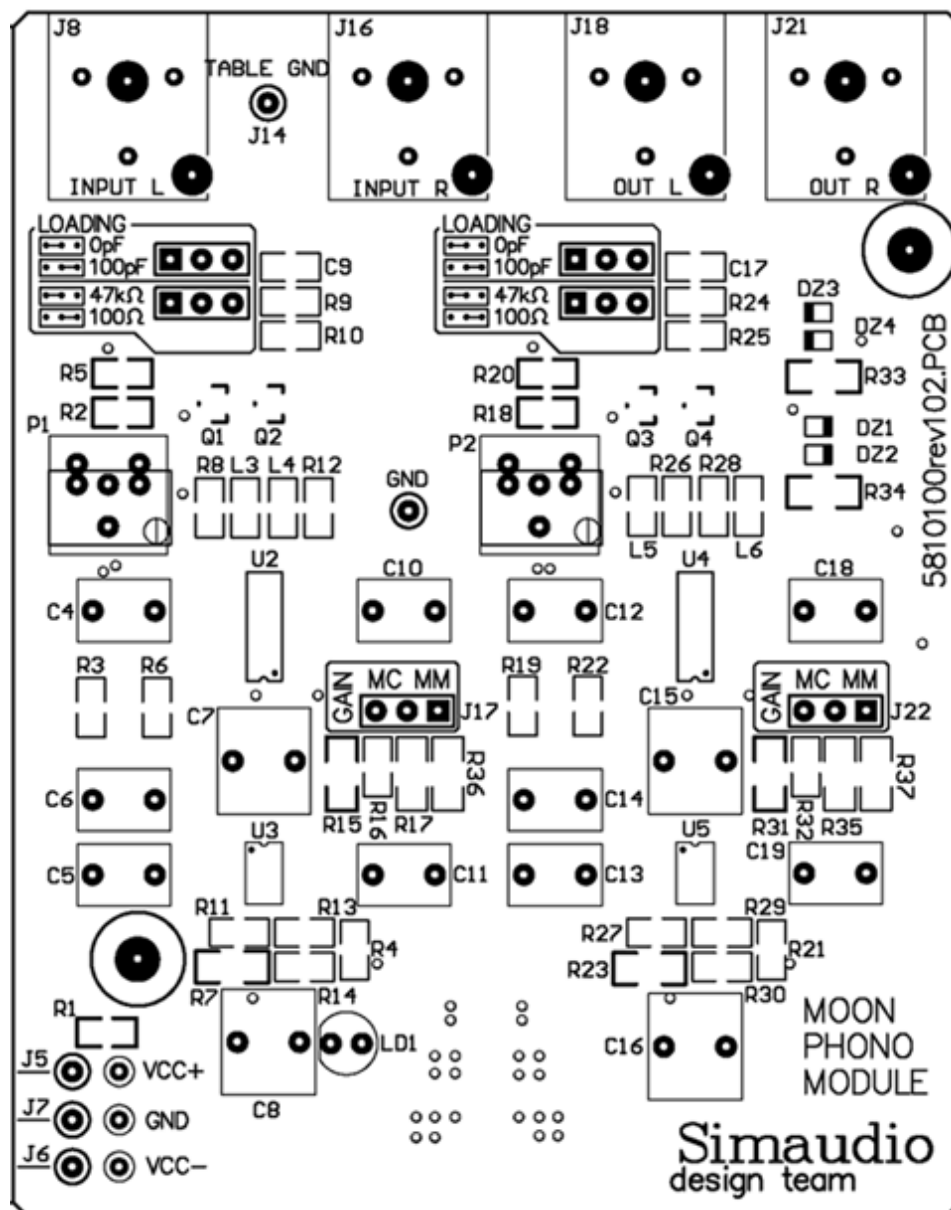

Figure 2: MOON P5.3 Optional Phono Section Circuit Board Layout
There are two (2) different settings available for setting the resistive load; 100 Ω and 47k Ω which are represented by jumper sockets R9 for the left channel and jumper socket R24 for the right channel (refer to figure 2 – section labelled “LOADING”). The factory default setting is 47k Ω , therefore both jumpers will be found in each of the two left most sockets.
There are two (2) different settings available for the capacitive load; 0pF and 100pF which are represented by jumper sockets C9 for the left channel and jumper sockets C17 for the right channel (refer to figure 2 – section labelled “LOADING”). The factory default setting is 100pF for a moving magnet cartridge, therefore both jumpers will be found in each of the two right most sockets.
There are two (2) different settings available for gain level. They are 40dB for MM cartridges and 60dB for MC cartridges, which are represented by jumper socket J17 for the left channel and jumper socket J22 for the right channel (refer to figure 2 – section labelled “GAIN”). The factory default setting is for a MM cartridge, therefore both jumpers will be found in each of the two right most sockets labelled MM; ***It is highly recommended that you do not use the jumpers labelled MC for an MM cartridge as this will overload the preamplifier.*** In the event that you're using a MC cartridge, you should insert the supplied jumpers into each of the two left-most sockets labelled MC.